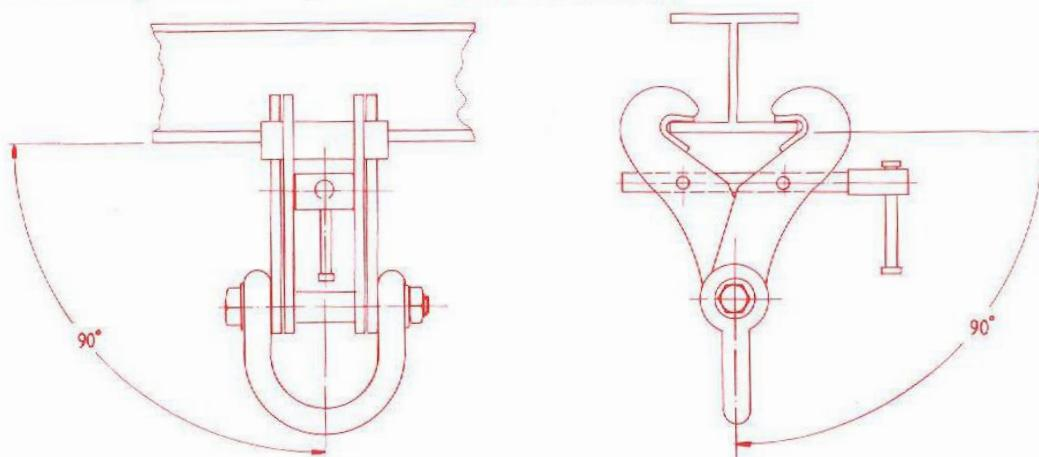

Fig 11.2
11.3 The majority of clamps are designed for in-line i.e. the line of force must be at right angles to the flange of the beam to which it is attached (see fig 11.2)